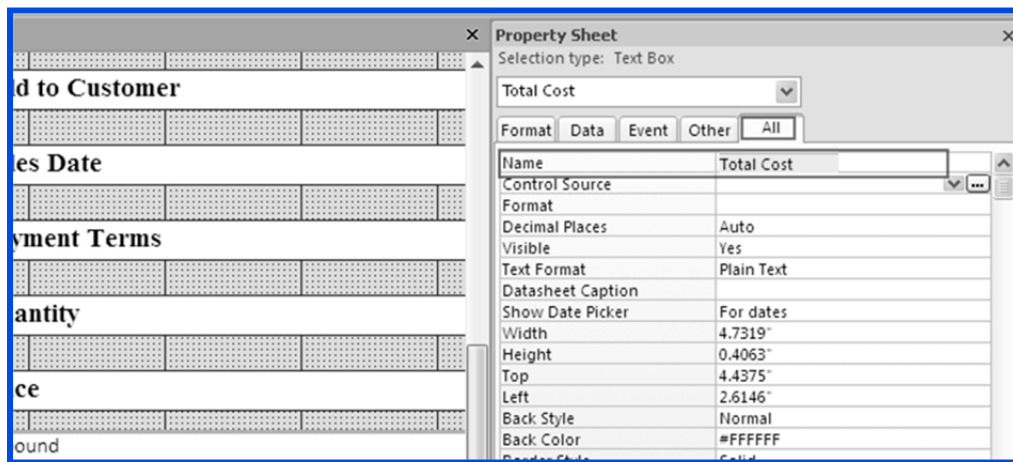

Fig. 4.2.42: Set the Name property
3. Open the control properties by selecting *TextBox* and pressing *F4*. In the *All* tab of *Property Sheet*, set the value of the *Name* property as “Total Cost”, as shown in Fig. 4.2.42.